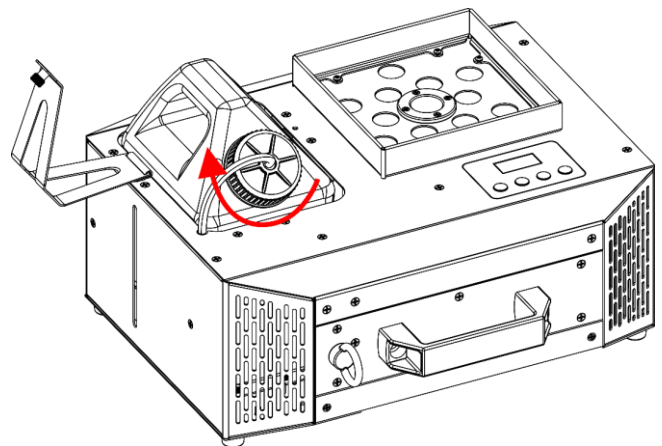

Fig. 35
10) Screw the lid back on the fluid tank, as shown in Fig. 35.